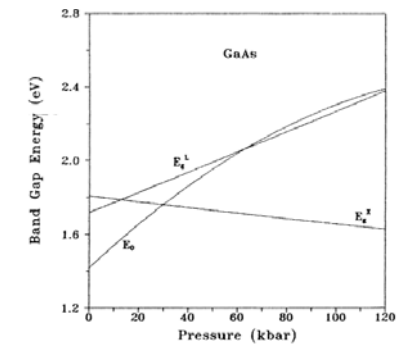

Fig. 2. Direct and indirect band gaps in GaAs as a function of pressure.
FIG. 6. (a) Schematic representation of the band structure of an unstrained direct-gap tetrahedral semiconductor (as in Fig. 2). (b) Under bi-axial tension, the hydrostatic component of the tension reduces the mean band gap, while the axial component splits the degeneracy of the valence band maximum and introduces an anisotropic valence band structure, with the highest band being light along the strain axis ( $k_x$ ) and comparatively heavy perpendicular to that axis. (c) Under bi-axial compression the mean band gap increases and the valence splitting is reversed so the highest band is now heavy along the strain axis ( $k_x$ ) and comparatively light perpendicular to it (reprinted with permission of (167) ©1989 Institute of Physics).